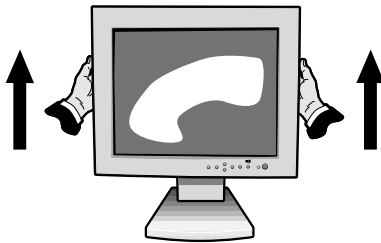

Figure R.1
To raise the screen, place hands on each side of the monitor and lift up (Figure R.1).
2. Place hands on each side of the monitor screen and raise it to the maximum height (Figure R.1).